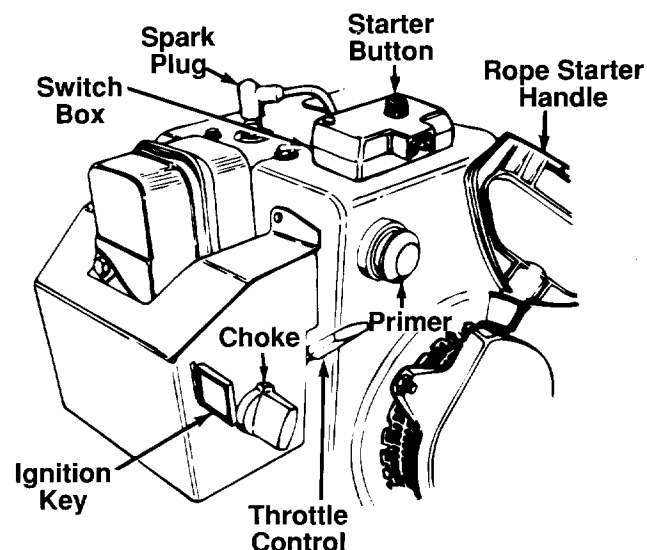

FIGURE 9.
THROTTLE CONTROL (See figure 9)
SAFETY IGNITION SWITCH (See figure 9)
3. Move throttle control up to FAST position. Insert ignition key into slot. See figure 9. Be certain it snaps into place. **Do not** turn key.
5. Push primer button two or three times. See figure 9.
6. Grasp starter handle (see figure 9) and pull rope out slowly, until it pulls slightly harder. Let rope rewind slowly.